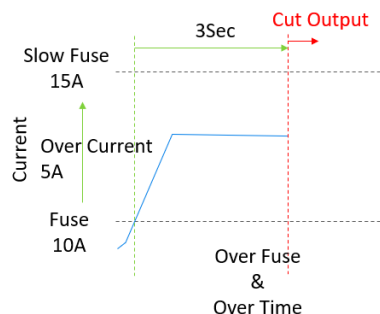

Figure 2-8-8 Over Timer Buffer
■ Over Time Buffer (Figure 2-8-8):